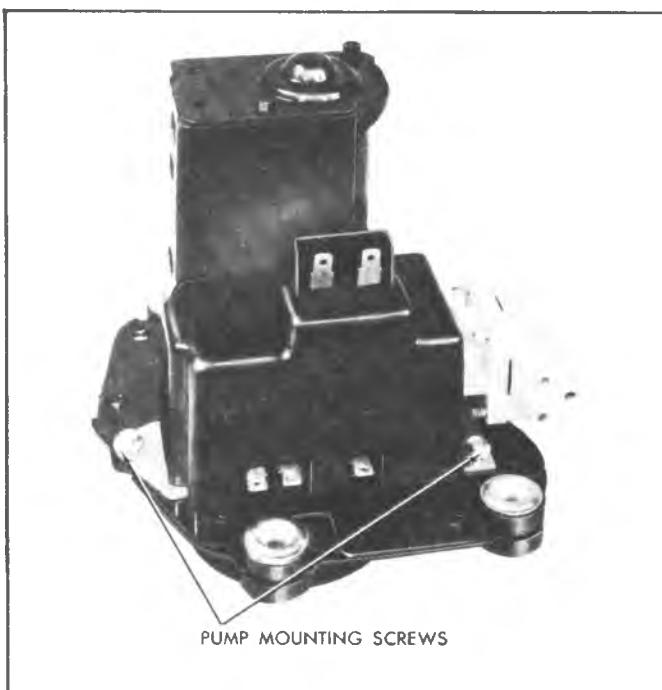
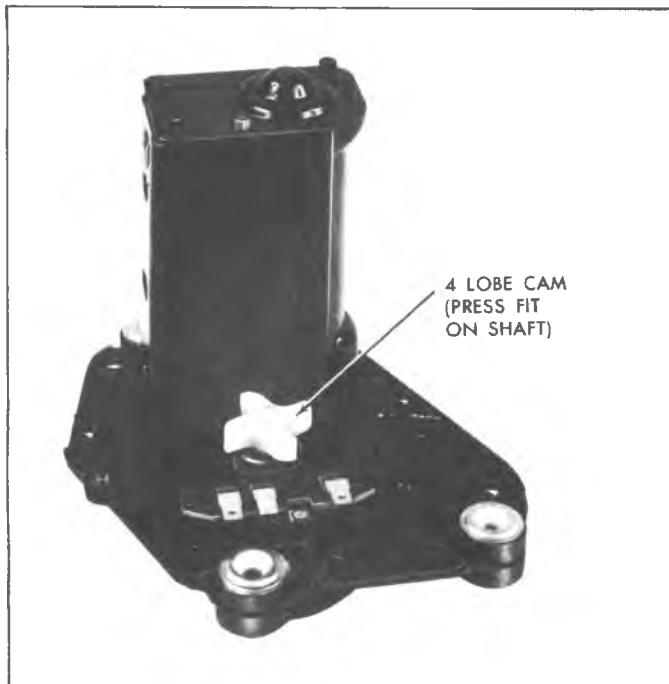
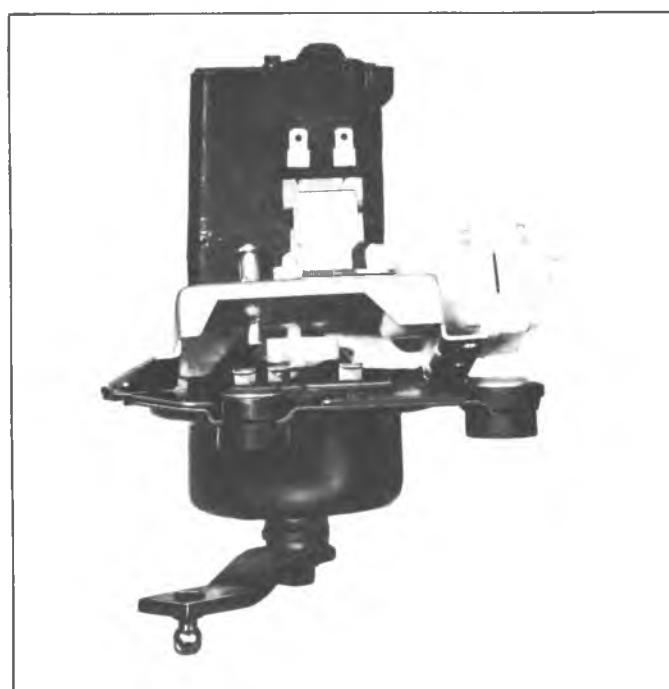

Fig. 43-Washer Pump Attaching Screws
Fig. 44-Washer Pump Drive Cam
Fig. 45-Washer Pump Drive Cam and Actuator
- Remove washer pump drive cam as required (figs. 43 and 44). The cam is pressed on the shaft but can be wedged off by using two screwdrivers between cam and plate.
The positive displacement washer pump used on the two-speed non-depressed park wipers (fig. 43) use a pump mechanism consisting of a piston, piston spring and valve arrangement driven by a (4) lobe cam, and follower assembly (fig. 45). The cam is attached to one shaft of the wiper motor output gear (fig. 44). Programming is accomplished electrically and mechanically by a relay assembly and ratchet wheel arrangement.
2. Remove two (2) pump mounting bolts.
**CAUTION:** *Install washer multiplug harness connector with battery lead on terminal with no tang (fig. 43). Incorrect installation of connector will result in direct ground and destroy wiper motor fuse.*